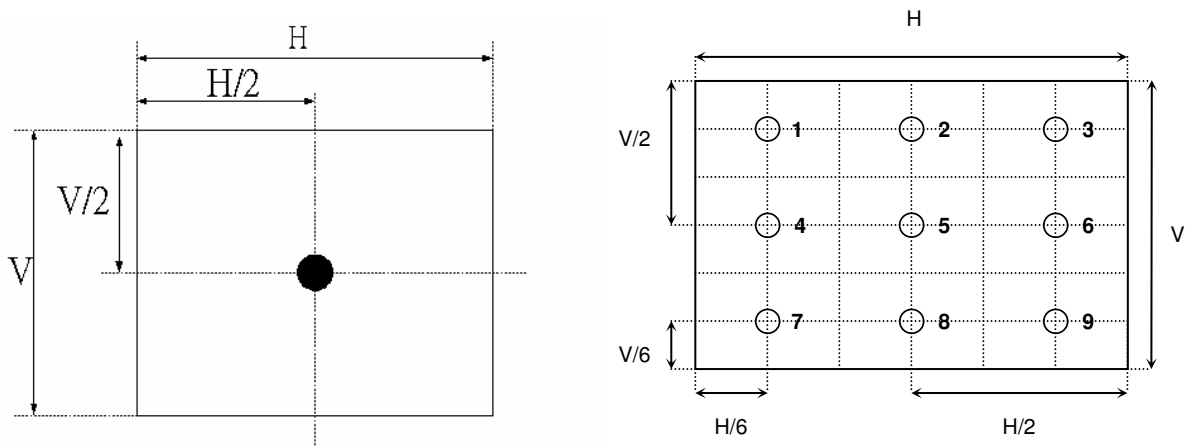

Fig.4-2 Optical measurement point
2. Surface Luminance is luminance value at point 5 across the LCD surface 50cm from the surface with all pixels displaying white. For more information see Fig. 4-2. When lamp current $I_{\text{out}}=8.5\text{mA}$, $L_{\text{WH}}=L_{\text{on5}}$, where L_{on5} is the luminance with all pixels displaying white at center 5 location.